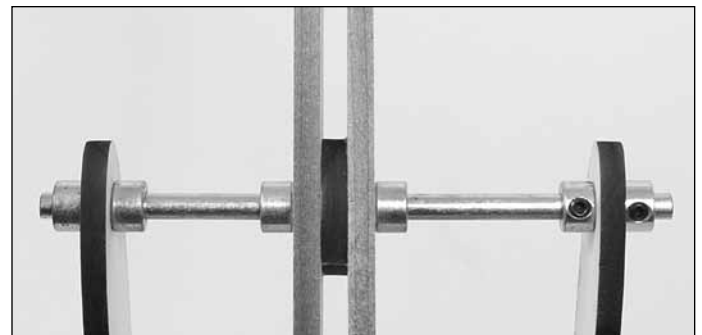

Figure 23
6. Over each end of the rod outside the Parts E, place a set collar and tighten them firmly (Figure 23).